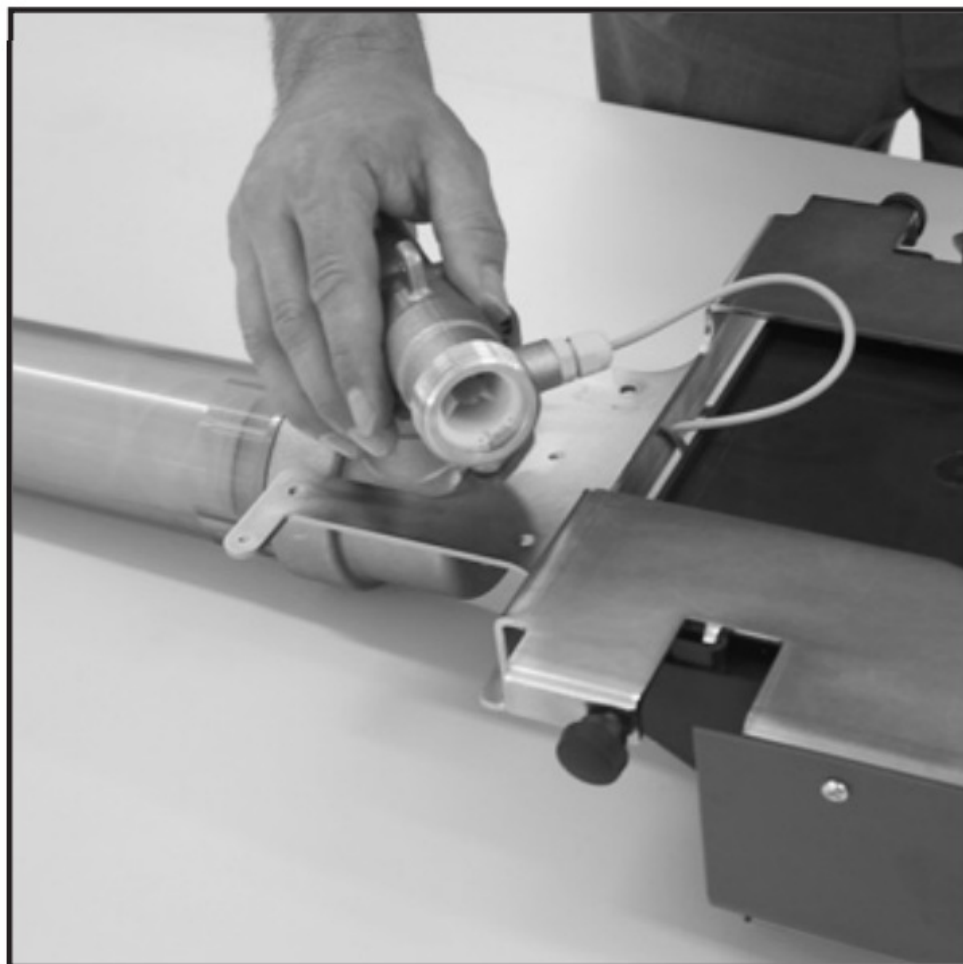

Fig. 7
- **f.** Turn the base in the flow direction and re-connect it to the device (see Fig. 7, 8, 9).